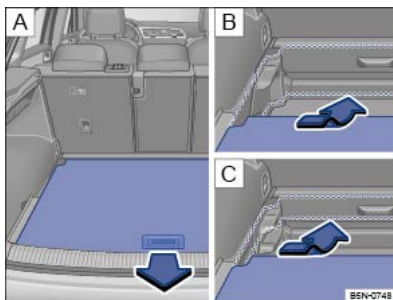

Fig. 183 In the luggage compartment: adjusting the height of the luggage compartment floor.
- Lift the luggage compartment floor and pull it rearwards out of the guides on the sides of the luggage compartment ⇒ *Fig. 183* **A**.
- Insert the luggage compartment floor into the guides at the required height and push it forwards as far as it will go ⇒ *Fig. 183* **B**, **C**.